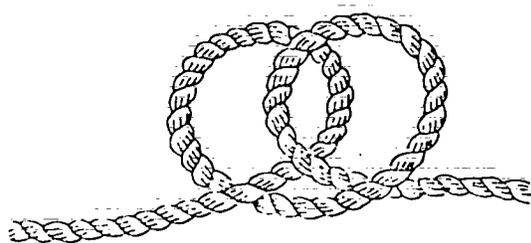

Figure 7-19. Tying a Clove Hitch in the Middle of a Line
3. The **clove hitch** offers a fast, simple way of fastening a line to a post, timber or pipe and can be tied at any point in the line. To tie a clove hitch in the middle of the line, make two turns close together in the line and twist them to bring them back to back as shown in Figure 7-19. Slip the loops over the post. To tie a clove hitch at the end of the line, two underhand loops are tied around the post as shown in Figure 7-20.